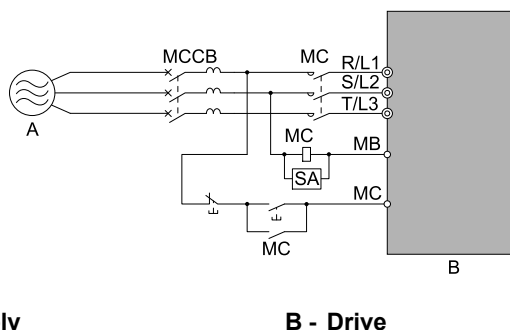

Figure 3.39 Connect an MCCB
- When you connect more than one drive or the drive and other device to an MCCB or RCM/RCD, refer to Figure 3.39, use a magnetic contactor (MC), and set a sequence that de-energizes the drive when it outputs errors.